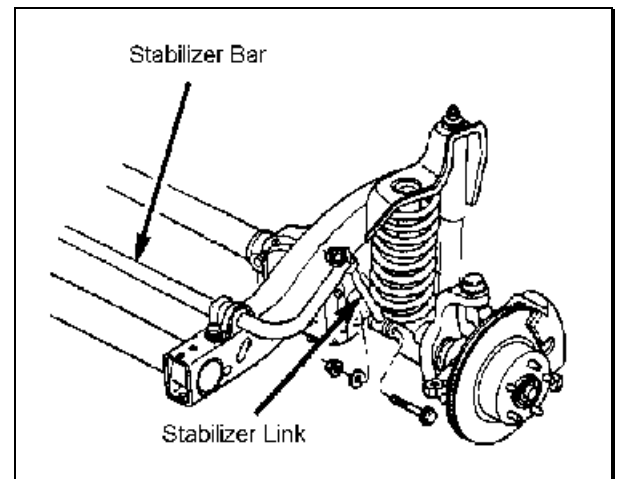

Figure 2
5. ≤ Position a hydraulic jack under the front axle for support. Remove the stabilizer link lower nut and bolt from both sides of the front axle. See Figure. 2